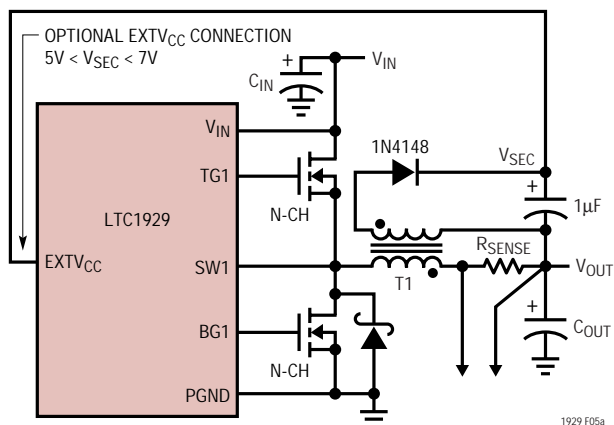
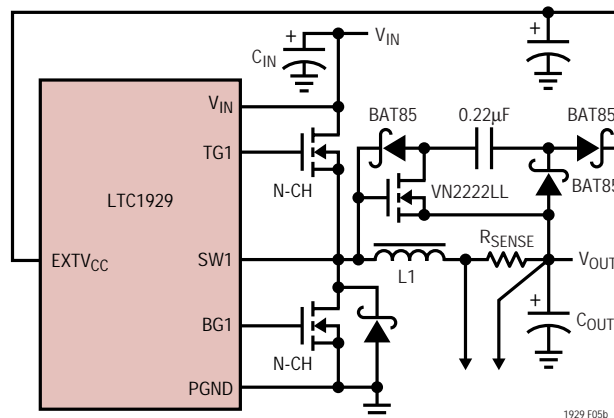

Figure 5a. Secondary Output Loop with EXTV_{CC} Connection
Figure 5b. Capacitive Charge Pump for EXTV_{CC}
4. EXTV_{CC} connected to an output-derived boost network. For 3.3V and other low voltage regulators, efficiency gains can still be realized by connecting EXTV_{CC} to an output-derived voltage which has been boosted to greater than 4.7V but less than 7V. This can be done with either the inductive boost winding as shown in Figure 5a or the capacitive charge pump shown in Figure 5b. The charge pump has the advantage of simple magnetics.